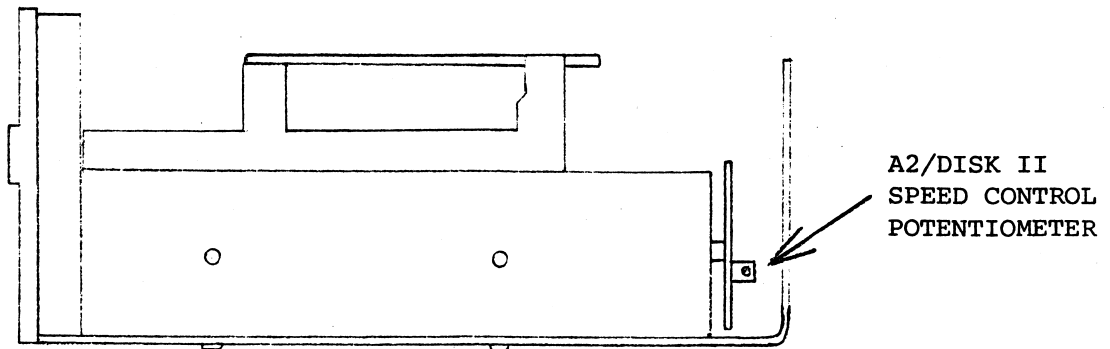

Figure 2
- B. Remove the drive cover by removing four (4) screws. On the Disk II, these screws are on the bottom of the drive. After removing them, slide the cover off towards the rear of the drive. On the A2, these screws are on the sides of the drive. After removing them, lift the cover off the drive.
- D. The drive speed is adjusted by turning the SPEED CONTROL POTENTIOMETER. This is a long rectangular box with an adjustment screw at one end. It is located on a small printed circuit card at the rear of the drive (see figure 2).